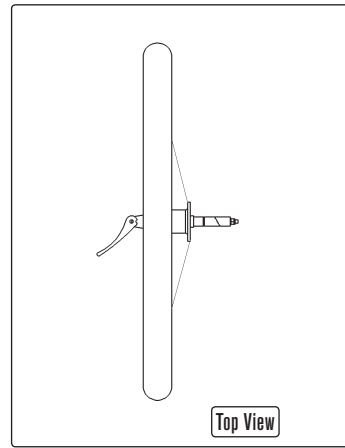

FIGURE 3: Quick release lever in unlocked "open" position
1. Insert wheel axle assembly completely into trailer axle. **FIGURE 3**